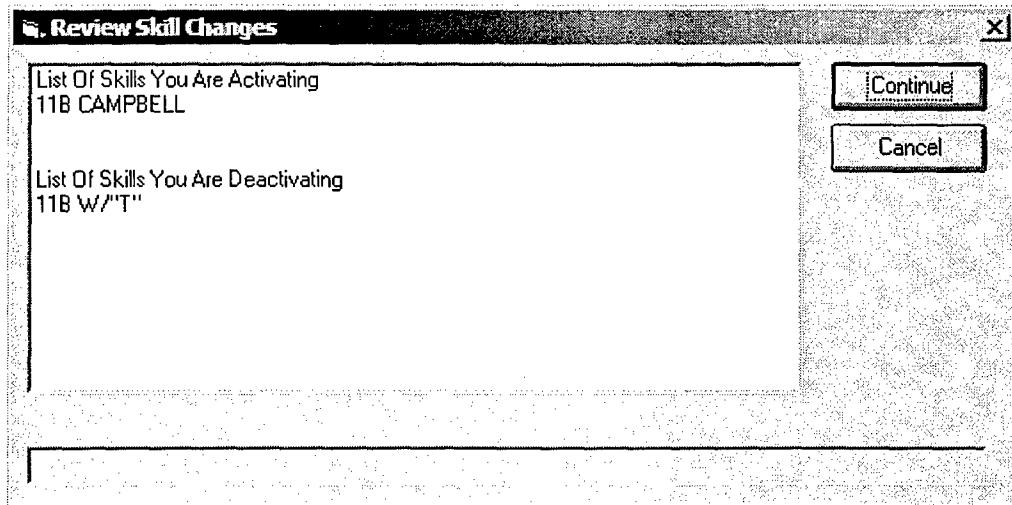

Figure 10. Confirm Skill List Changes
5. When you are finished activating and deactivating skills, click on the *Save* button. The program will present a list box showing all of the skills that will be activated or deactivated (Figure 10). All changes will be written to every plan associated with the selected fiscal year. Additionally, the SRB Rules table for that fiscal year will be updated to reflect the changes. Click *Continue* to accept the changes or *Cancel* to close without saving the changes to the database.